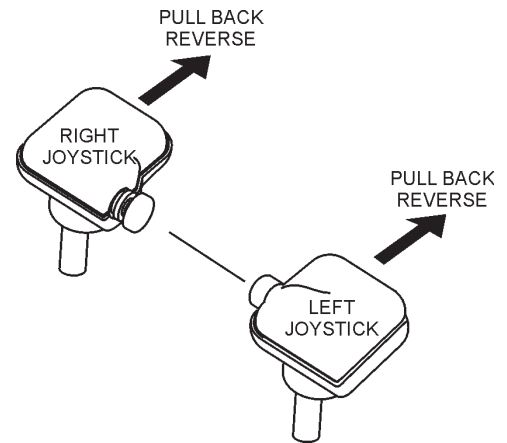

Figure 15. Joystick Control Reverse Direction
7. Push both the left and right joysticks backward (Figure 15) and repeat steps 3 through 6 while substituting the word reverse for forward.